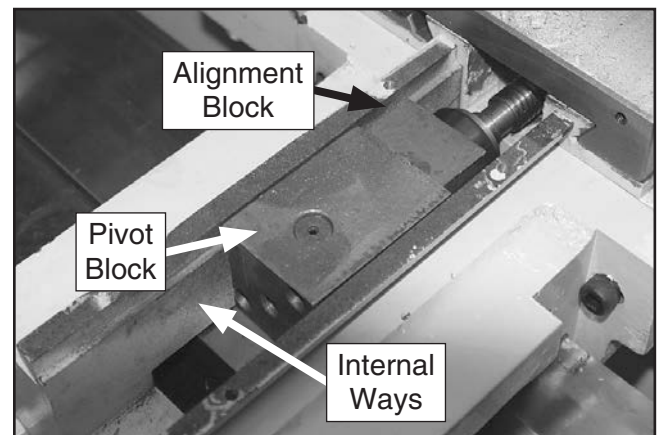

Figure 36. Internal lubrication points of taper attachment body.
1. Remove the top cover from the attachment body, disconnect the pivot block from the alignment block, then remove the pivot block (see **Figure 36**).